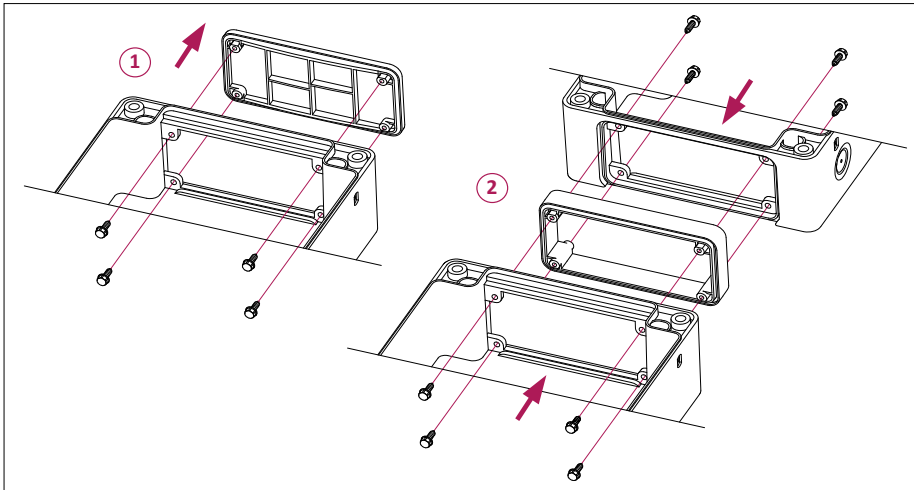

Figure 7
- If, for example, the expansion module is attached to the unit, then use the adapter from the unit package (**Figure 7**). Previously, remove the installed blank cover at the case base, then fasten the adapter using the screws with the wrench.